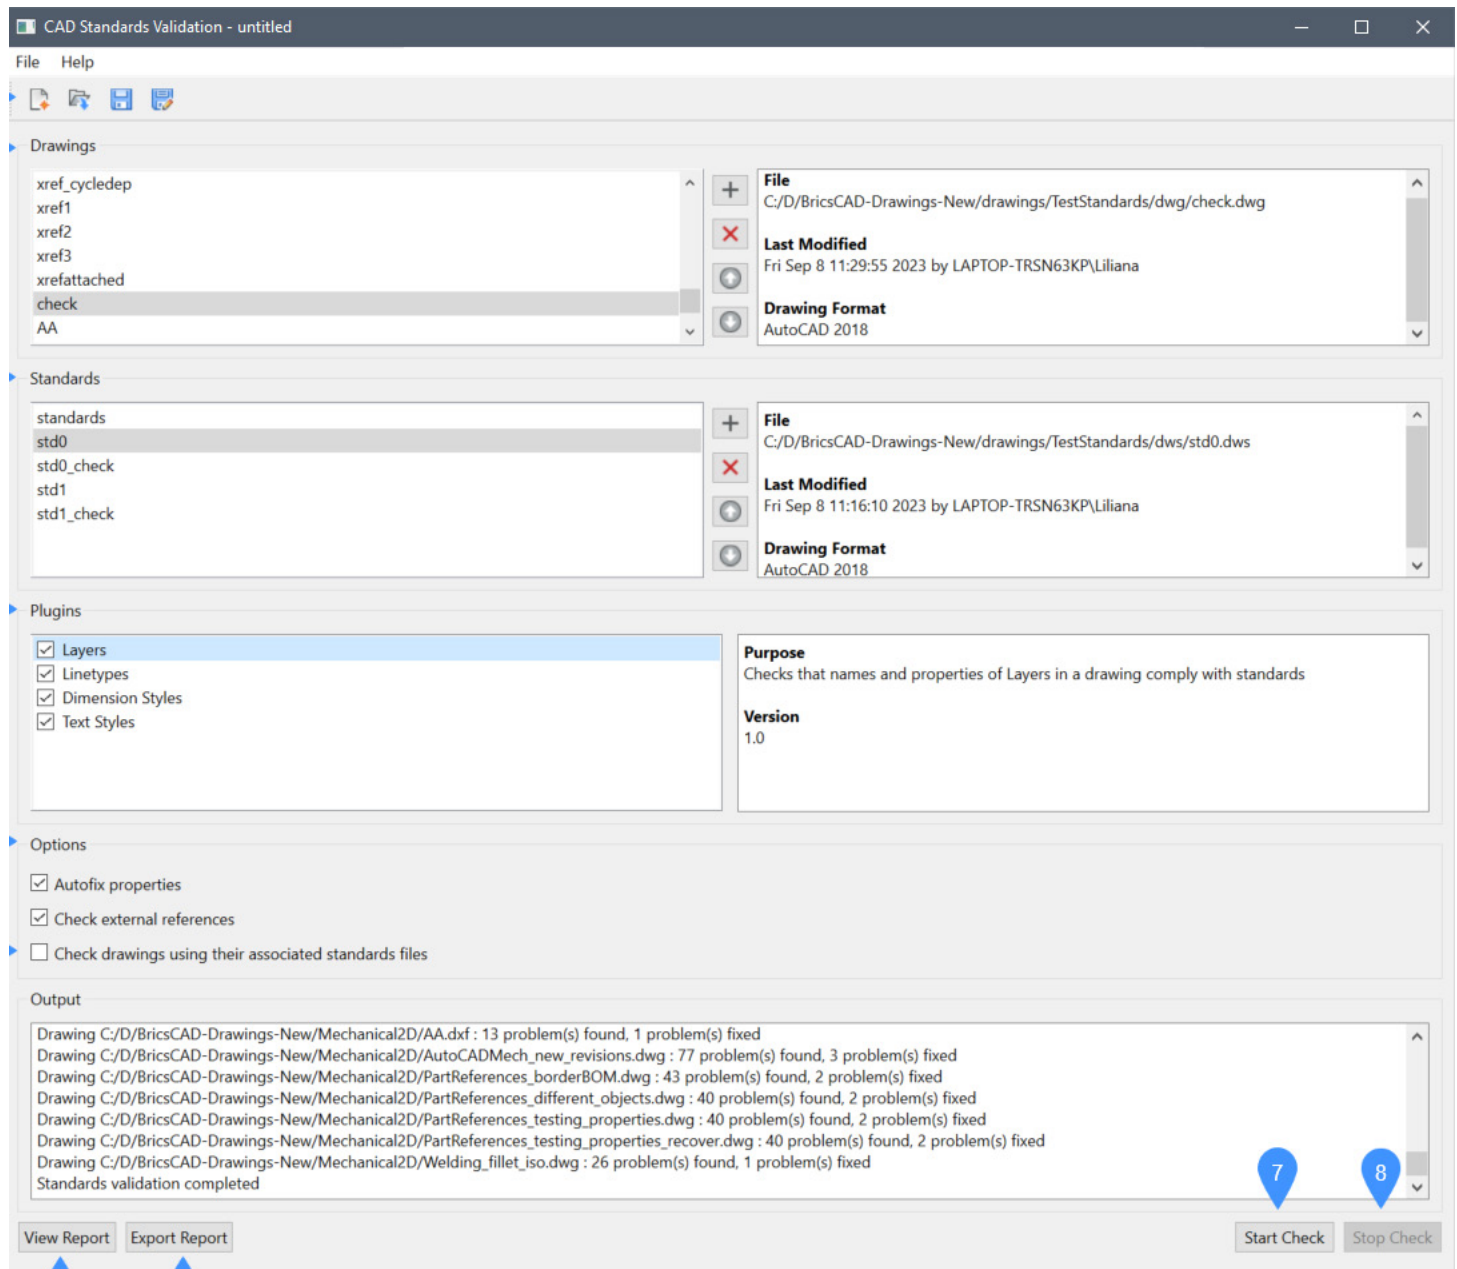

Fig. 4
- **Standards Checker:** Using tools to verify and enforce compliance with established standards. (See Fig. 4)